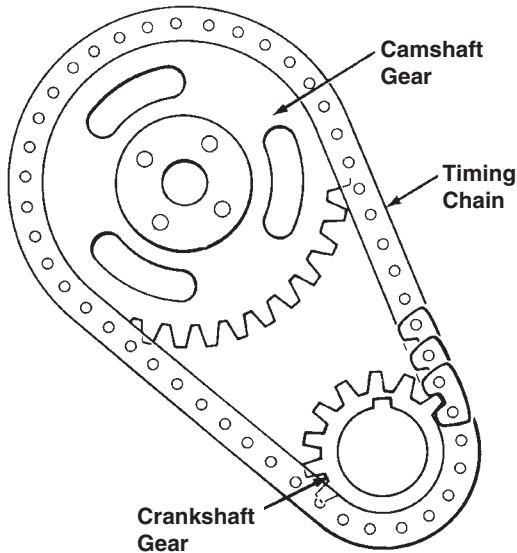

Figure 3-14 A timing chain can be used on either OHC or pushrod valvetrain engines to link the camshaft to the crankshaft.
2. **Timing chain.** On some engines, a metal chain is used to connect the crankshaft and camshaft gears (**Figure 3-14**). Most pushrod engines and some OHC engines have timing chains.